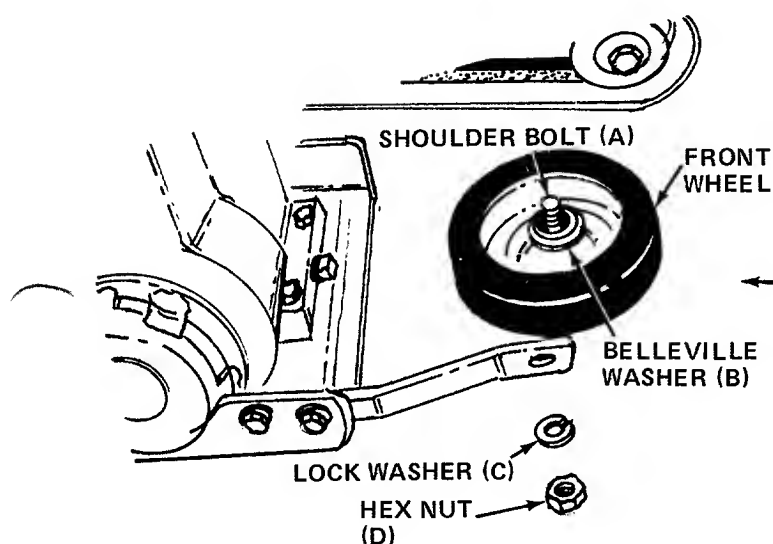

FIGURE 4.
5. Assemble the front wheel (V) toward the inside of the unit as shown in figure 4. Place shoulder bolt (A) through wheel, then belleville washer (B) (between wheel and frame, cupped side against the frame). Secure with lock washer (C) and hex nut (D). See figure 4.